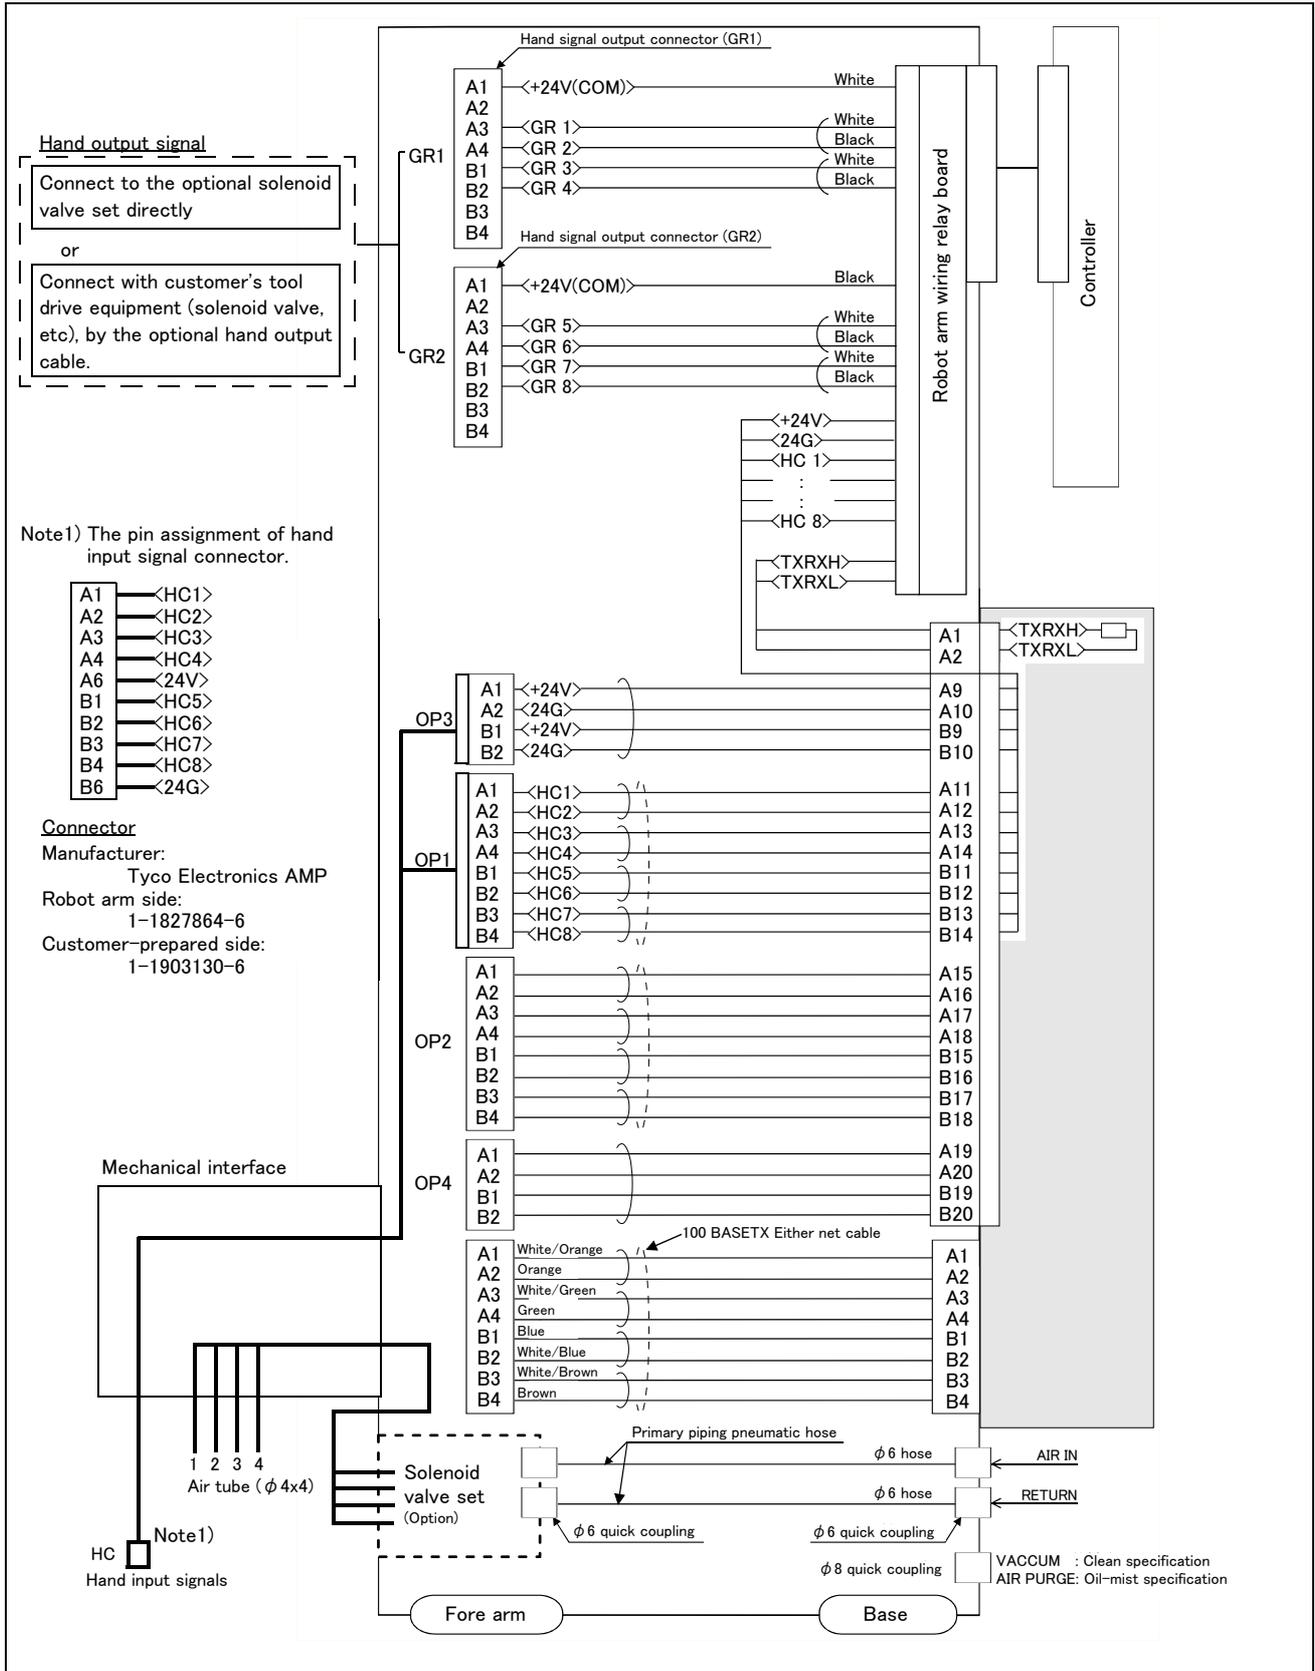

Fig.2-27 : Wiring and piping system diagram for hand and example the solenoid valve installation: SH01
- \*3) Refer to Fig. 2-27 for pin assignment of the hand input cable (HC).